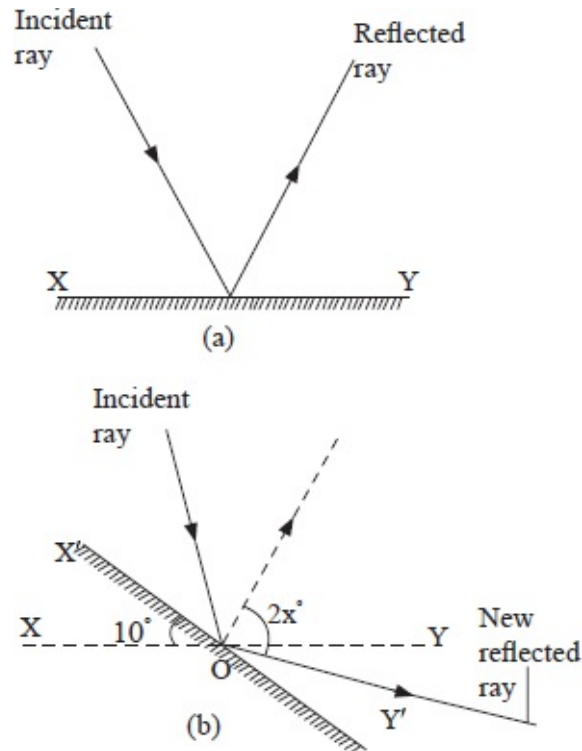

Fig. 8.25: Rotating the mirror
- Draw another line X'Y' at an angle of 10° to XY such that the two lines intersect point O, see figure 8.25 (b).
If the direction of the incident ray remains constant, the angle of rotation of the reflected ray is twice the angle of rotation of the mirror, see figure 8.25 (b).